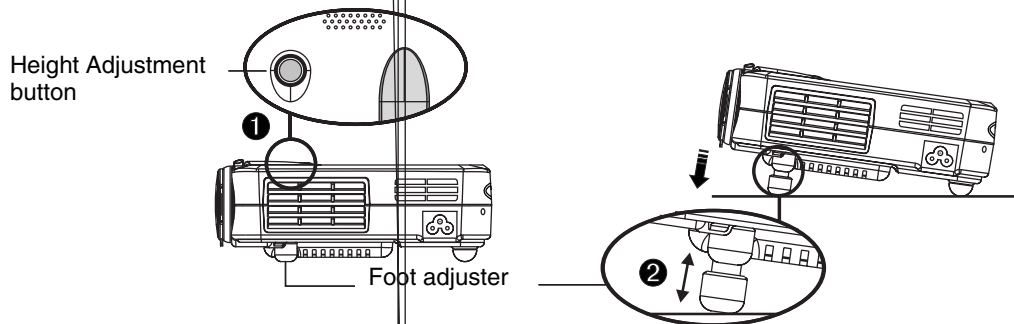

Figure 4: Projection Angle Adjustment
- 1 Press the Height Adjustment button with one hand, while tilting the projector with the other hand. The Foot Adjuster will extend accordingly. See Figure 4 below.